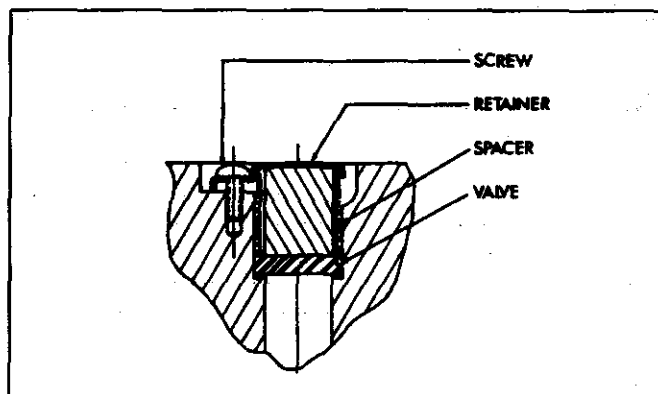

Fig. 1 - Bypass Valve with Spacer Installed
*If the valve is secured by a retainer and screw, remove the spring and install a spacer of the appropriate length under the retainer (Fig. 1). The spacer must be long enough to contact the valve and keep it from moving during the dynamometer test. When the test is completed, remove the spacer and reinstall the spring. Then change the filter(s).*